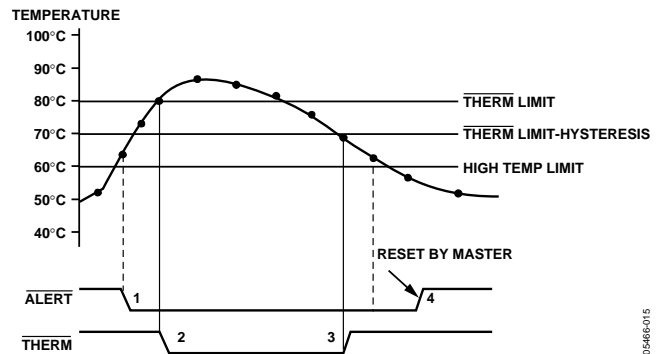

Figure 20. Operation of the $\overline{\text{ALERT}}$ and $\overline{\text{THERM}}$ Interrupts
Figure 20 shows how the $\overline{\text{THERM}}$ and $\overline{\text{ALERT}}$ outputs operate. A user may wish to use the $\overline{\text{ALERT}}$ output as a $\overline{\text{SMBALERT}}$ to signal to the host via the SMBus that the temperature has risen. The user could use the $\overline{\text{THERM}}$ output to turn on a fan to cool the system, if the temperature continues to increase. This method would ensure that there is a fail-safe mechanism to cool the system, without the need for host intervention.
- The $\overline{\text{THERM}}$ output de-asserts (goes high) when the temperature falls to $\overline{\text{THERM}}$ limit minus hysteresis. In Figure 20, the default hysteresis value of 10°C is shown.